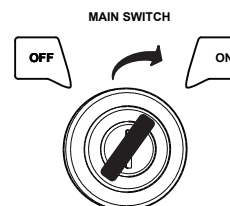

Figure 46. Main Switch (RTP Verification)
1. Turn the main switch (ignition switch) key to the **ON** position (Figure 46).